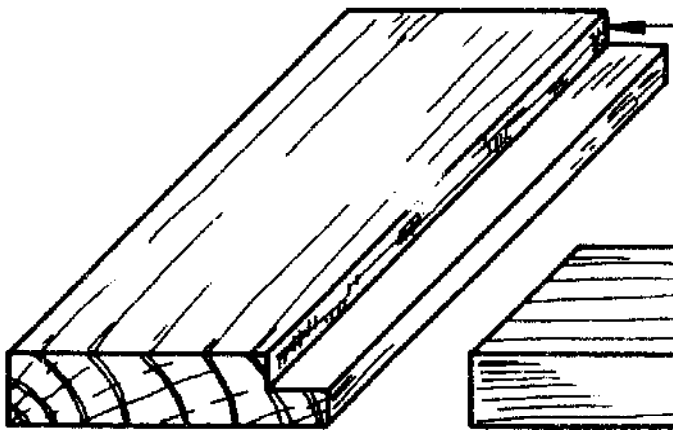

Fig. 5
- **REBATE:** This is a recess cut along the edge or across the end of a board as in Figs. 5 & 6.
- **SHOULDER:** The vertical portion of a trench or rebate (arrows, Figs. 5 & 6).